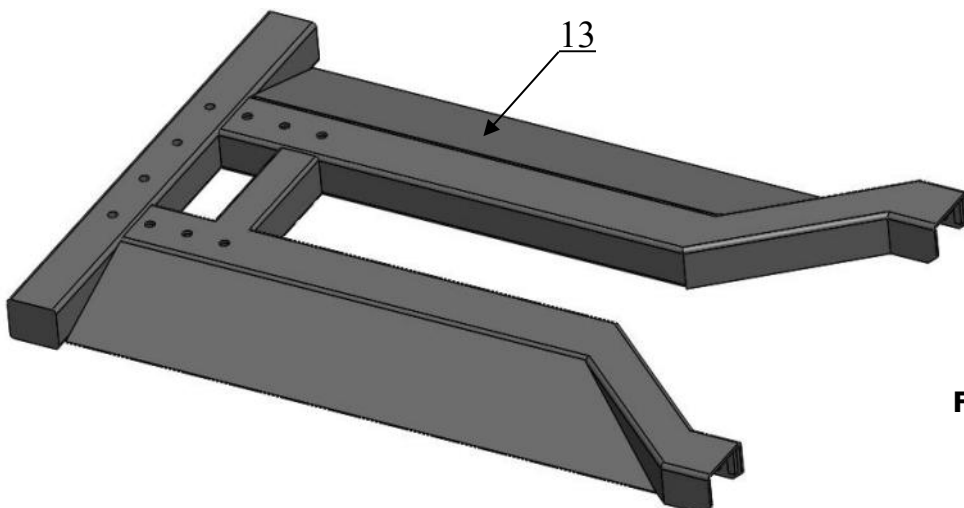

Fig.10
C. Confirm the installation position and place the base onto it. (See Fig.10)